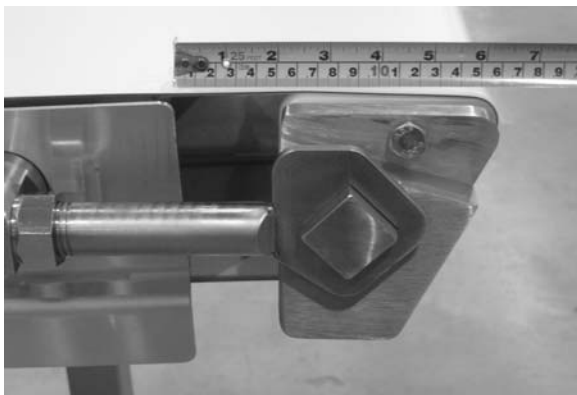
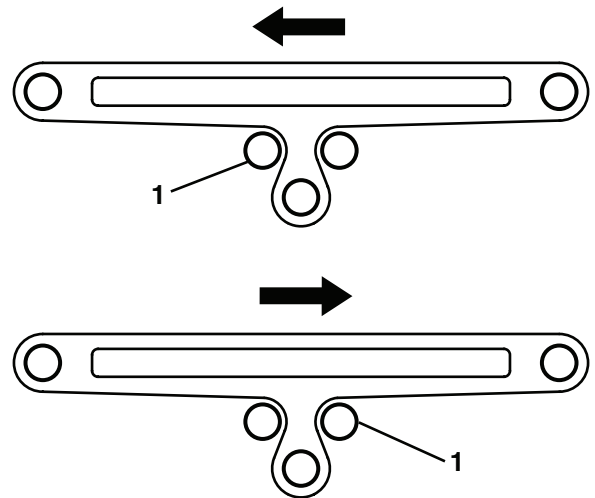

Figure 51
Figure 54
*When installing a new belt, set conveyor tracking elements to the "zero position" and start the tracking procedure. The zero position is when the tails are tensioned out to the 6" dimension as shown in (**Figure 51**, and the infeed tension roller (**Figure 54, item 1**) on the center drive assembly is set to its outermost position (roller away from center of box, against guard).*
Tracking of belt through the center drive is done by adjusting the position of the infed roller (**Figure 54, item 1**) on the center drive assembly.